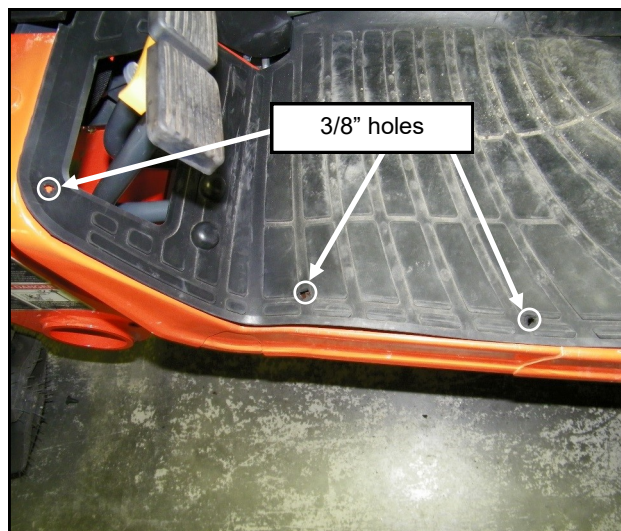

Fig. 1.14 (rubber mat with holes)
**1.14** Using an awl, feel for the (6) outer holes of the rubber mat and punch holes thru the mat. Drill (6) holes (3/8" diameter) thru the rubber mat. See fig 1.14.